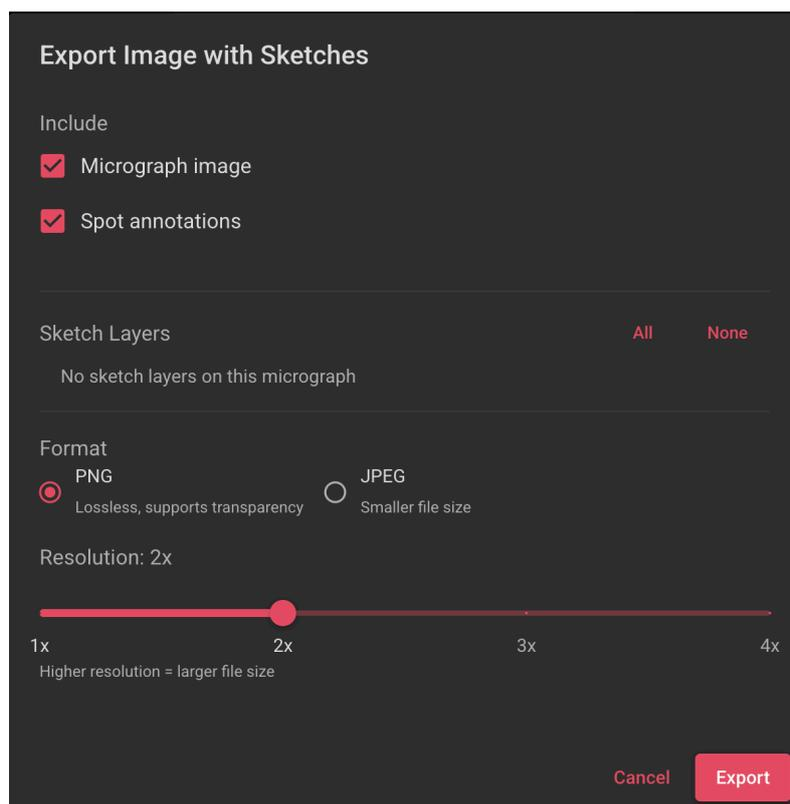

Figure 63. Export dialog with sketch layer selection options.
2. The Export dialog appears (Figure 63)